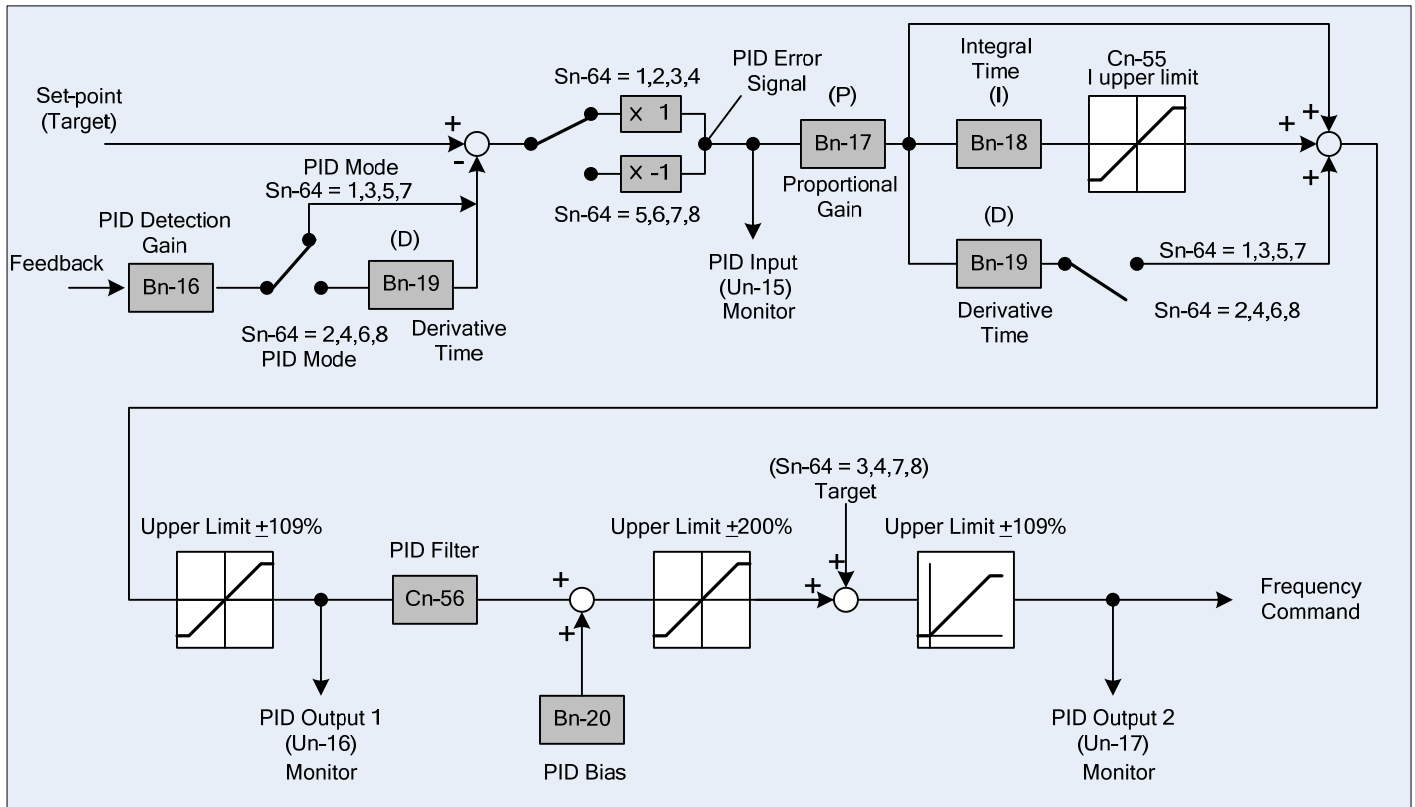

Fig. 1.3.1 PID Block Diagram
- Fig. 1.3.1 below shows a block diagram of the PID function with the various parameters used.